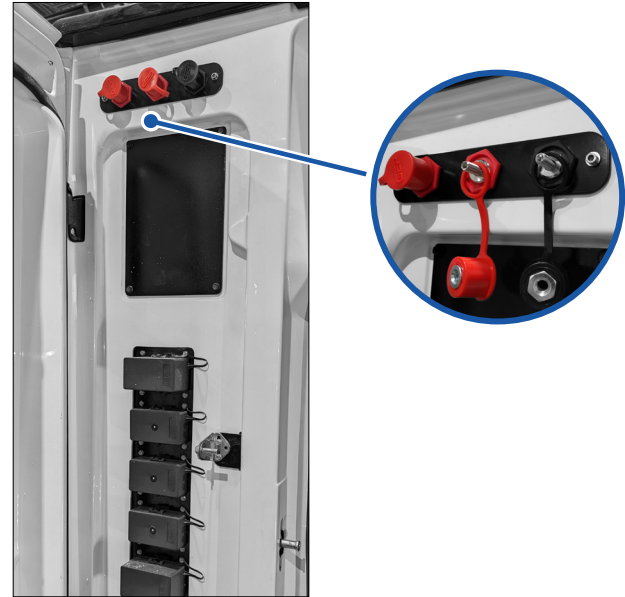

Figure 28 - Low-voltage remote battery posts
- If need be, an auxiliary 24 V supply can be applied to the two electrical terminals (optional equipment) located at the top of the accessory compartment (**Figure 28**) on the passenger side of the truck.
3. Turn on the vehicle and set the vehicle ride height to **<< Normal >>** or **<< High >>** using the suspension height control switches (see section on Hydraulic Suspension). Provide an auxiliary 24 V supply if need be (**Figure 28**).